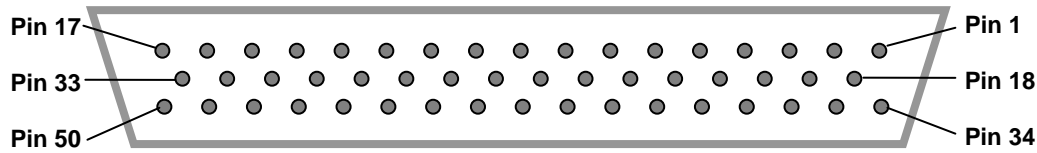

Fig. 4.5-2 Pin out of 50-pin EXTERNAL INTERFACE connector as seen from outside the unit. (All even-numbered pins are at ground.)
2. Mating 50-pin D-sub connector parts are provided with the Power Supply so that the user can wire a cable for analog input/output. See Fig. 4.5-2 and Table 4.5-1.
- b. Refer to Table 4.5-1 and Fig. 4.5-2 for the pinout of the **EXTERNAL INTERFACE** connector. For each supply, there are a pair of pins: (1) signal program to connect to the voltage programming signal and (2) common to reference the system to ground.
- b. Refer to Table 4.5-1 and Fig. 4.5-2 for the pinout of the **EXTERNAL INTERFACE** connector. For each meter, there are a pair of pins: (1) signal output to connect to the output measuring device and (2) common to reference the system to ground.